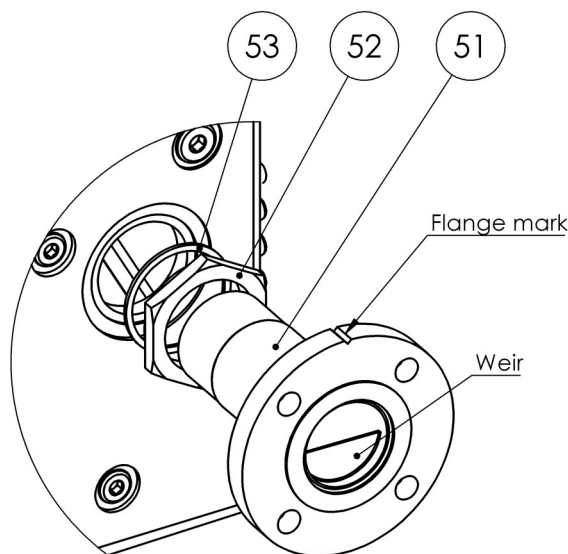

Fig. 53
- Screw the oil outlet pipe (51) with nut (52) and copper ring (53) into the oil outlet connection hole. Seal with liquid sealing compound (fig.53).
- Tighten the nut (52).